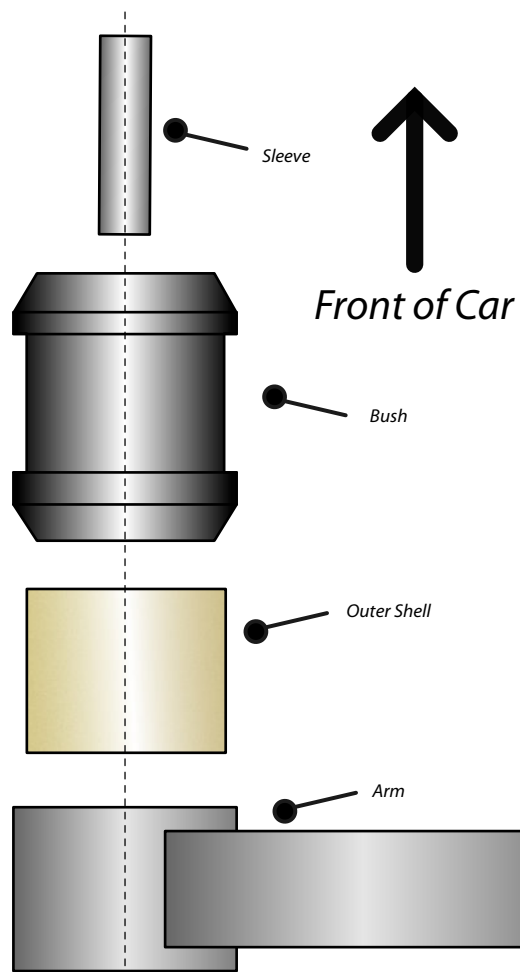

Figure 1
2. Press in the outer shell from the top of the arm as shown in figure 1. Ensure the shell is pressed in square and that the top of the shell is pressed flush against the top of the arm.
4. Press the bush into the bore of the outer shell as shown in figure 1.